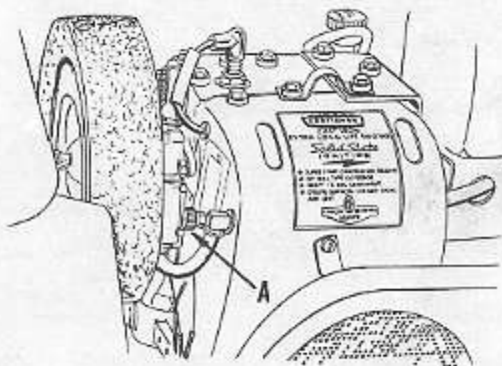

FIG. 9
1. Open gasoline shut-off valve (A, Fig. 9). Close gasoline shut-off valve after each day's use.